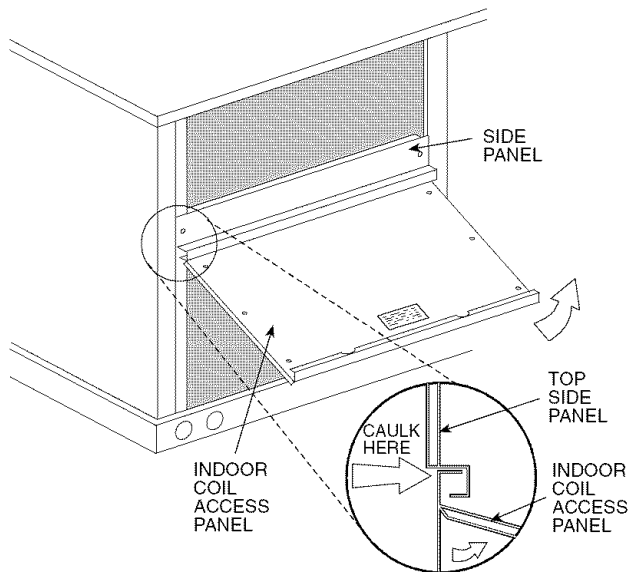

Fig. 23 — Indoor Coil Access Panel Relocation
3. The indoor coil access panel will be used as the top of the hood. Remove the screws along the sides and bottom of the indoor coil access panel. See Fig. 23.
8. Caulk the ends of the joint between the unit top panel and the hood top. See Fig. 23.